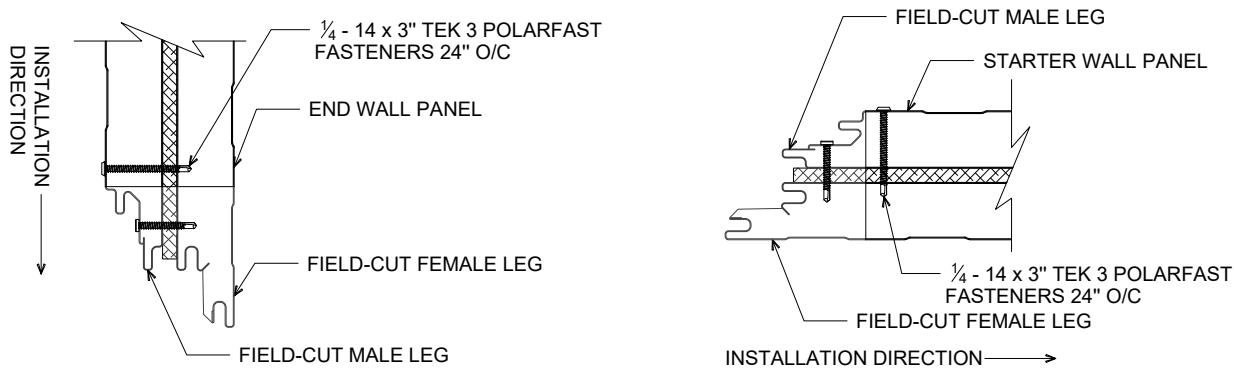

FIGURE 5
- 14.2 INSTALL POLARFAST FASTENERS 1" (MINIMUM) INBOUND OF CUT LINE PRIOR TO FIELD-RIPPING THE PANEL. STARTER AND END PANELS SHOULD BE FIELD-CUT AS SHOWN (SEE FIGURE 5, BELOW).